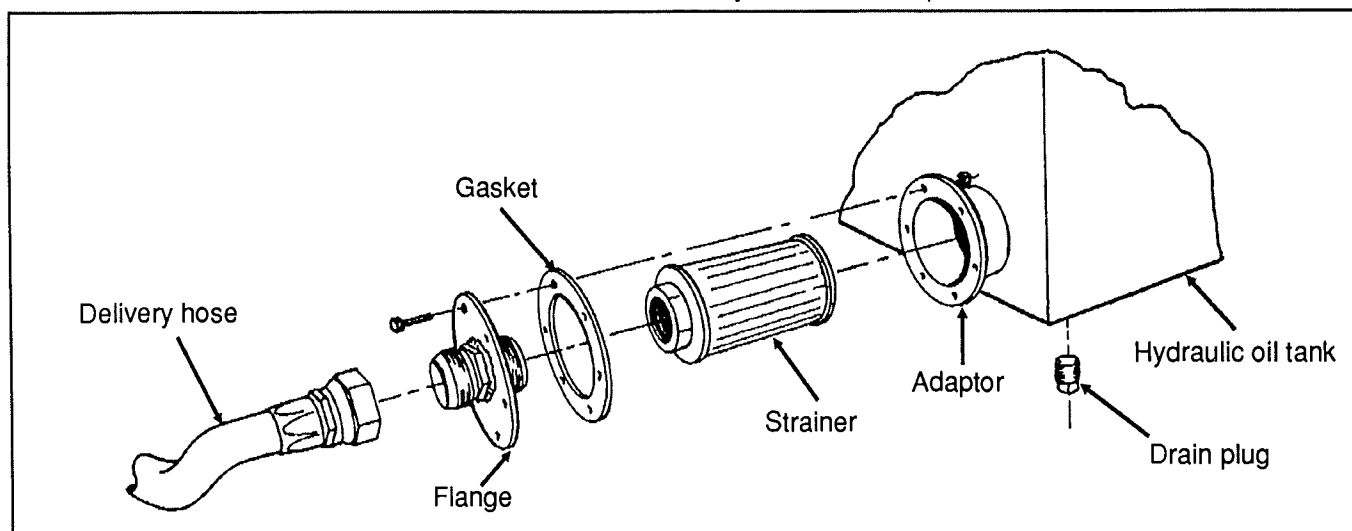

FIG. 4
3. Remove the six (6) bolts retaining the flange to the hydraulic oil tank adaptor (see fig. 4).